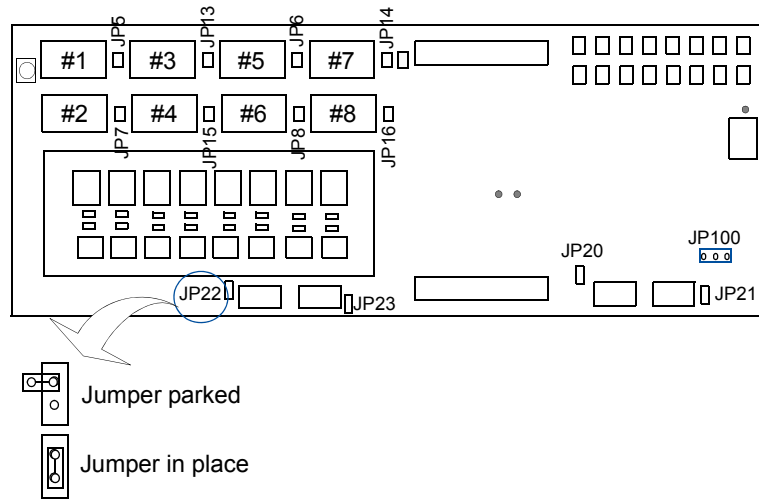

Figure 2.3: EOL Jumpers on iSTAR ACM
- To terminate an RM-4 or RM-4E device at the iSTAR end of the line, use Jumpers JP-20 to JP-23, adjacent to each RS-485 port (Figure 2.3). Reader ports are factory set as Terminated (EOL) devices.